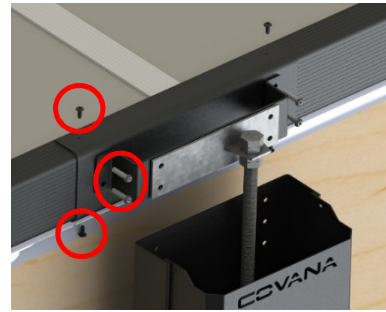

Figure 7
7. Remove the four screws that hold the joint support bracket to the c-channel. Remove the four bolts that connect the post mount bracket to the c-channel on each jack of the Legend (Figure 7).